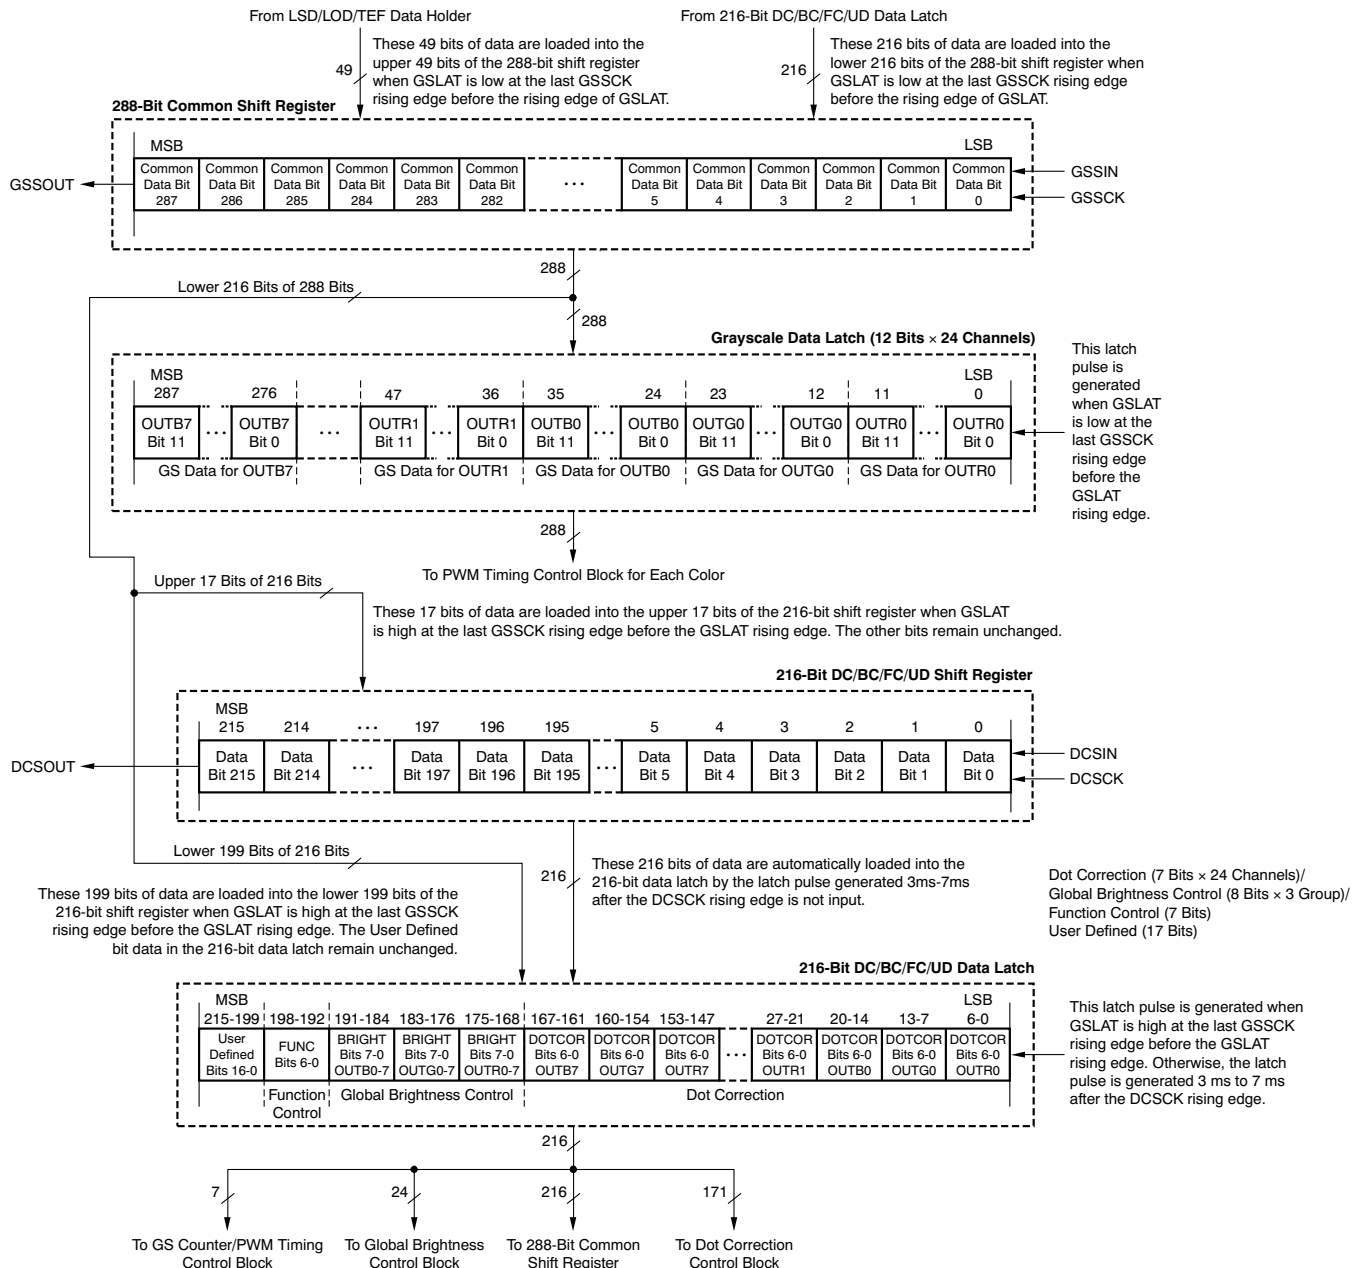

Figure 44. Grayscale Shift Register and Data Latch Configuration
The TLC5951 has two data latches to store information: the grayscale (GS) data latch and the DC/BC/FC/UD data latch. The GS data latch can be written as 288-bit data through GSSIN with GSSCK. The DC/BC/FC/UD data latch can be written as data through DCSIN with DCSCCK. Also, DC/BC/FC data can be written to the DC/BC/FC/UD data latch through GSSIN with GSSCK. UD data are written to the upper 17 bits of the 216-bit DC/BC/FC/UD data latch at the same time. The data in the DC/BC/FC/UD data latch can be read via GSSOUT with GSSCK. Figure 44 shows the grayscale shift register and data latch configuration.